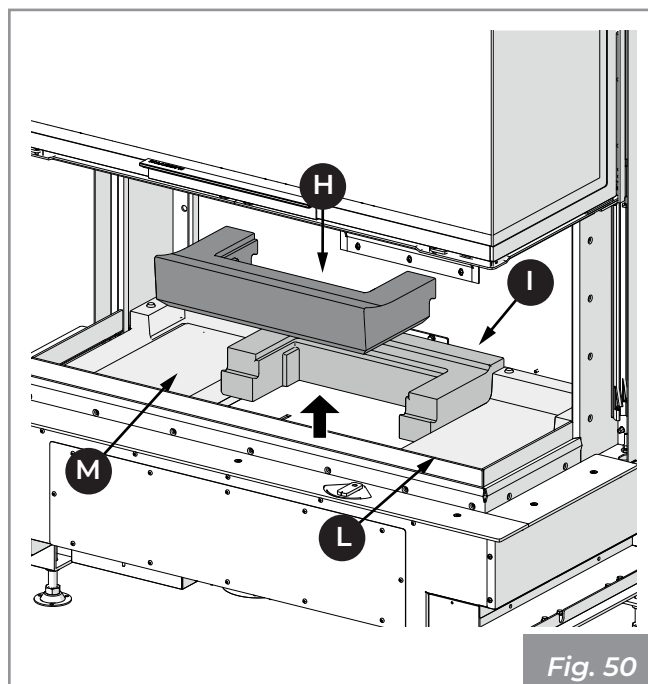

Fig. 50
- 6) Lift and extract the refractory bases in order (H, I, L, M) from the base and vacuum any ash deposited in the compartments below (Fig. 50).